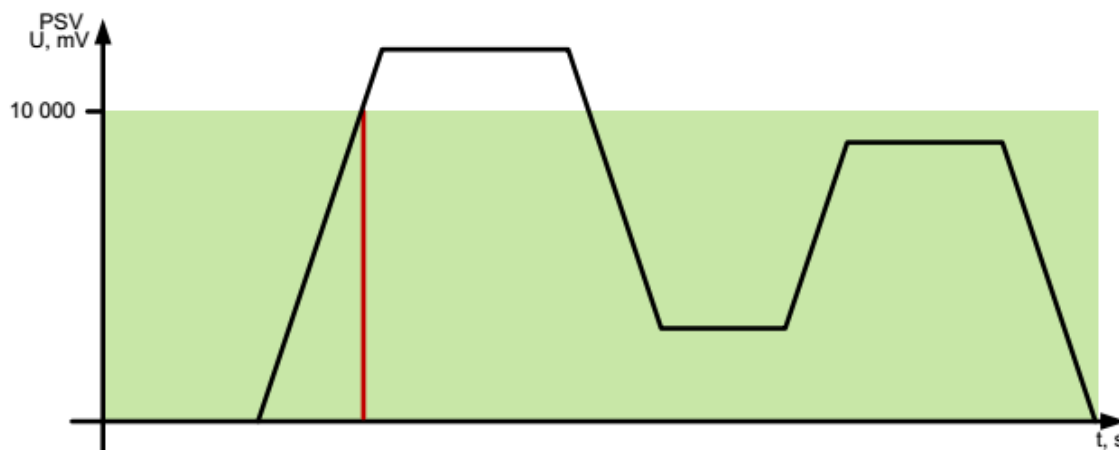

Fig. 8. Generation of the Event by Going Beyond Range.
*Example:* Lower threshold of input voltage is set to 0 V, the upper threshold is 10 V (10000 mV). If the input voltage increases over 10 V, the event will be generated (Figure 8).